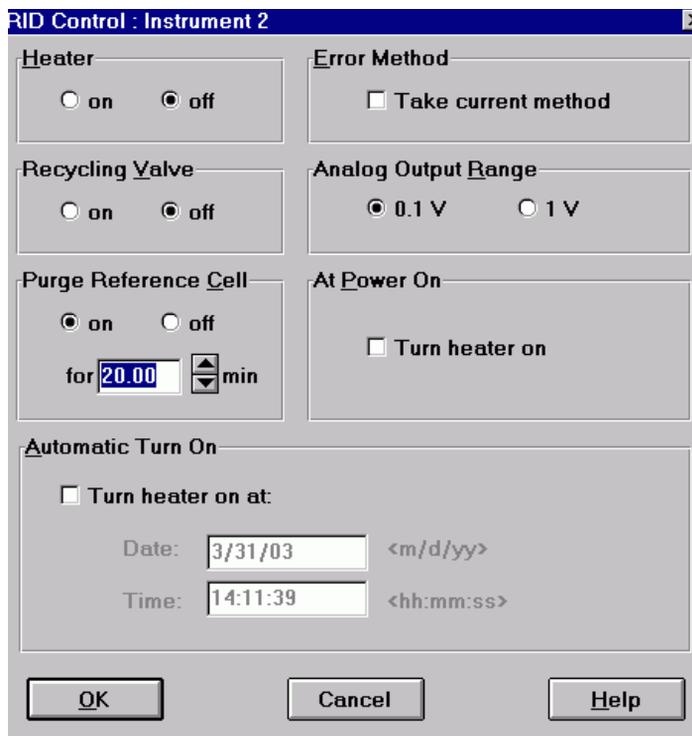

Figure 9 RID Check Out Sample Control
- 3 Turn the heater on and purge the detector reference cell for 20 minutes as shown in Figure 9: